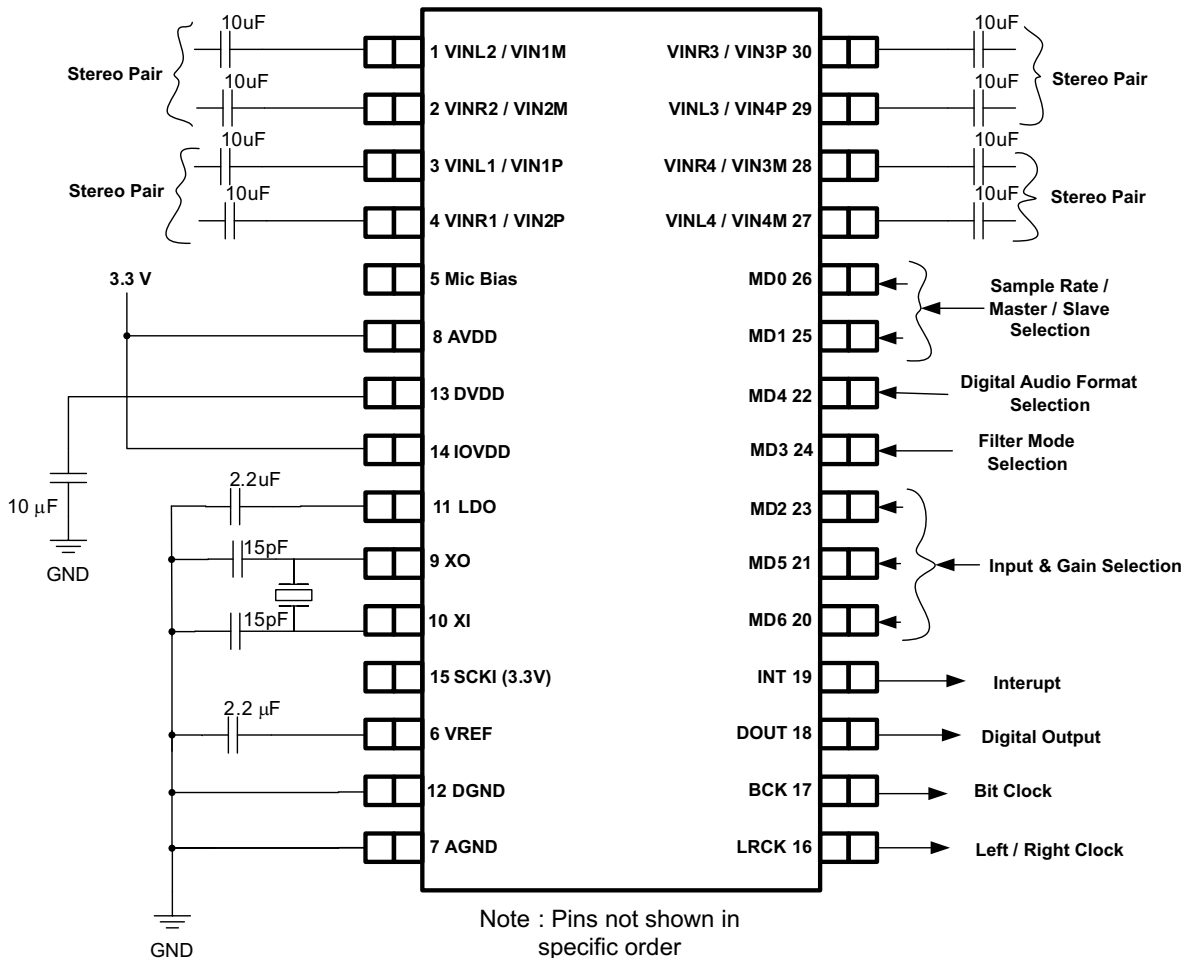

Figure 58. Simplified Schematic, PCM1860 Hardware-Controlled Subsystem
- MD0, MD1 grounded (See Figure 58, Pin Assignments PCM1860)